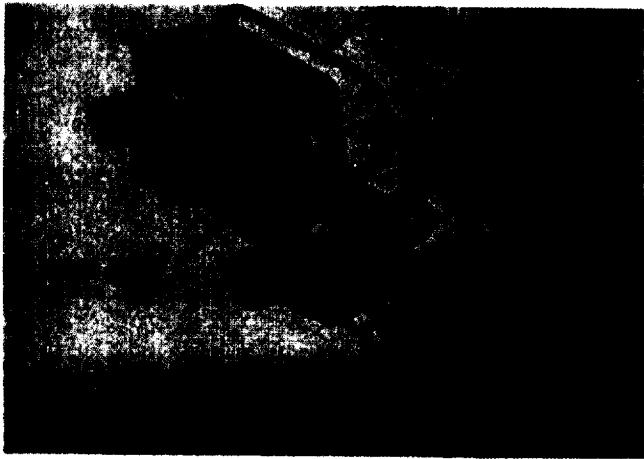

Figure 22-5. Removing Rear Piston Assembly.
- (6) Slide the washer out of the cylinder.
- (7) Remove the front piston retaining screw and slide out the rear piston assembly (figure 22-5).